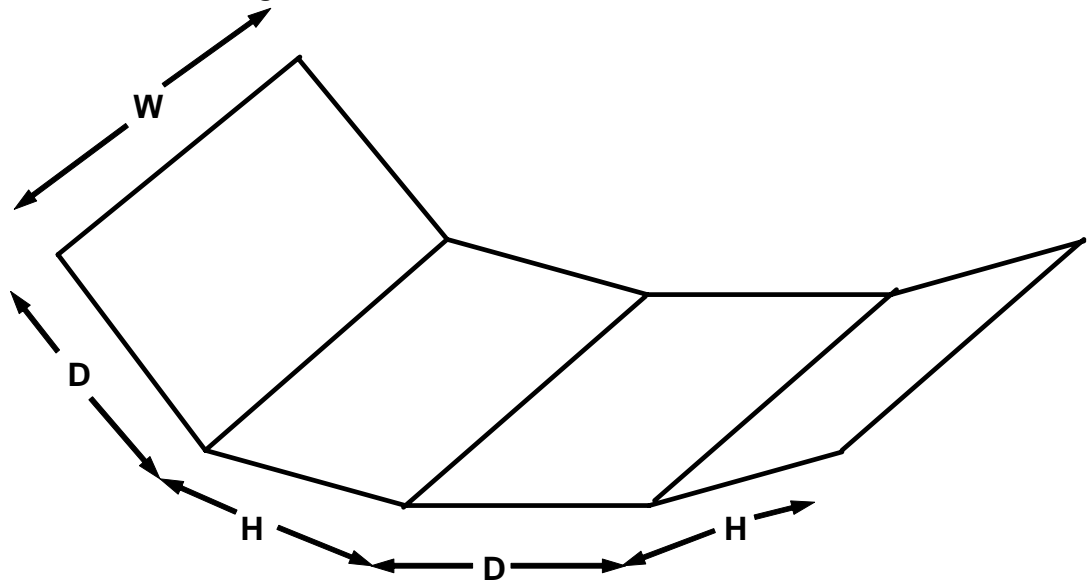

Figure 3: Top, back, bottom and front of gabion ready for assembly.
3.2: Fold or mark this piece to show where the edges of the gabion will be, as shown in Figure 3.